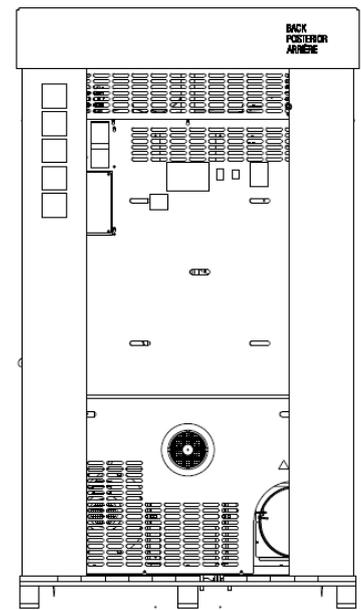

Fig. 2.4
- In the case of machines with steam heating, it is not possible to stack any machine on top of another (Fig. 2.4).